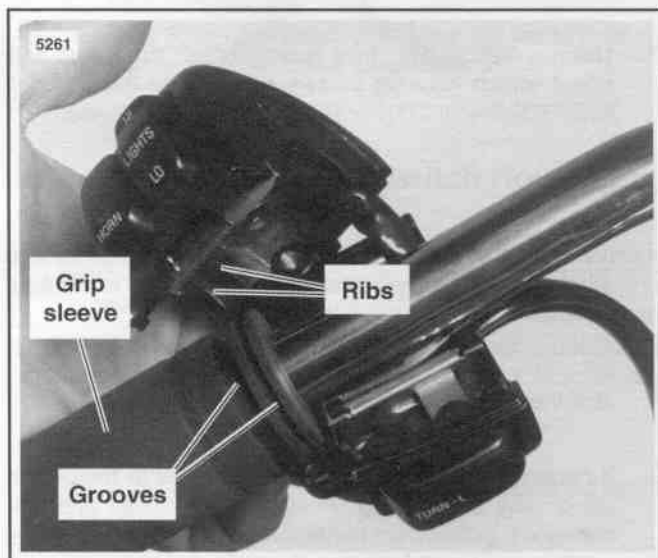

Figure 8-66. Install Left Handlebar Switch Housings
2. See Figure 8-66. Install upper and lower switch housings on handlebar. Be sure that ribs on outboard side of switch housings fit in grooves molded into grip.
9. Install Phillips screw (with lockwasher) to secure bracket inside housing. Verify that wing on engine stop switch side of bracket captures edge of conduit as shown in Figure 8-66.